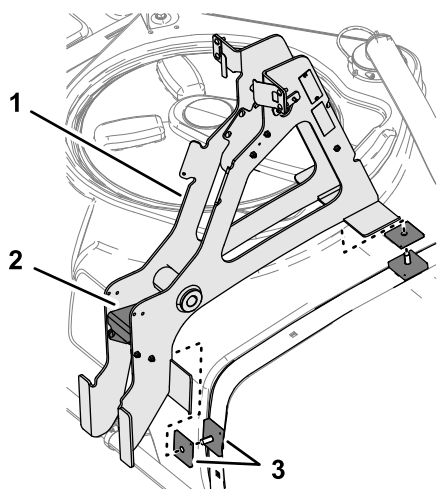

Figure 3
4. Mount 1 thick square spacer and 1 thin square spacer over the 2 previously installed carriage bolts (Figure 3).
5. Remove and retain the 4 bolts and nuts securing the guide plate to the main-support-frame assembly (Figure 3).
6. Install the main support frame over the square spacers and carriage bolts as shown in Figure 3.